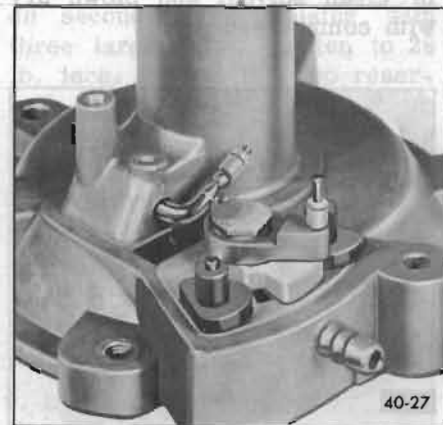

Figure 40-29—Removal of Distributor Valve
1. Remove screw, washer, distributor arm assembly, washer and distributor valve bushing. See Figure 40-29.